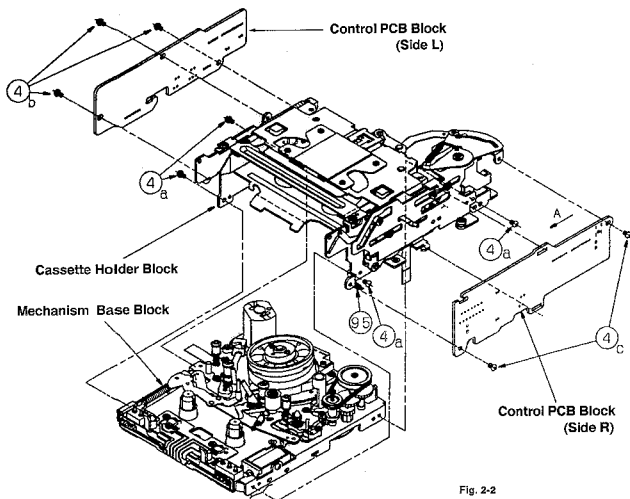

Fig. 2-2
1. Removal of the Control PCB Block (Side R) (Fig. 2-2)
2. Removal of the Control PCB Block (Side L) (Fig. 2-2)
- 2). Unthread the three screws ④b to remove the PCB.
3. Removal of the Cassette Holder Block (Fig. 2-2)
1. Control PCB Block (Side R) の取外し (図2-2)
2. Control PCB Block (Side L) の取外し (図2-2)
- 2). ネジ④b 3本を外し、基板を取り外す。
3. Cassette Holder Block の取外し (図2-2)